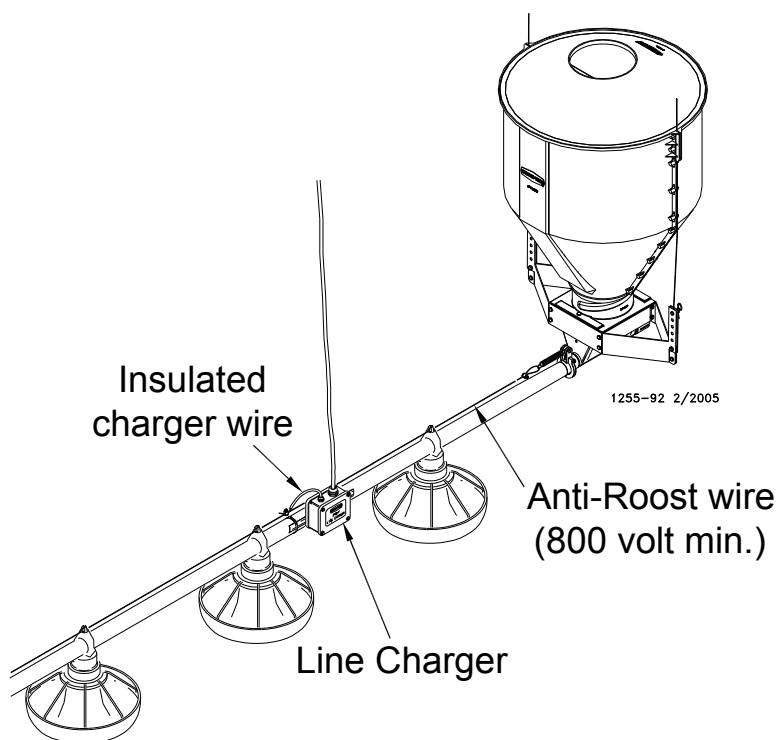

Figure 49. Line Charger Installation
11. Install the Poultry Trainer or Line Charger, as shown in **Figure 49**.
The Line Charger is used to power individual Anti-Roost lines in a house. See **Figure 49**.